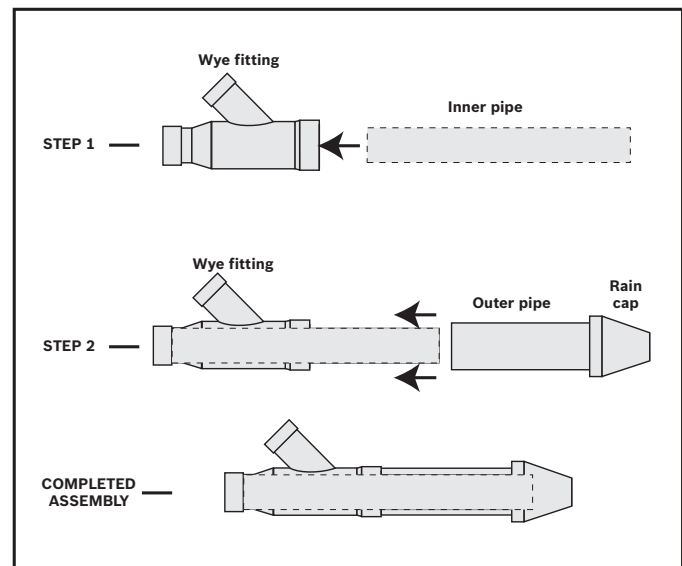

Fig. 4 Concentric vent component assembly
- A) Glue the inner pipe to the concentric Wye fitting (Fig. 4, Step 1).
- B) Next, glue outer pipe to the concentric Wye fitting (Fig. 4, Step 2).